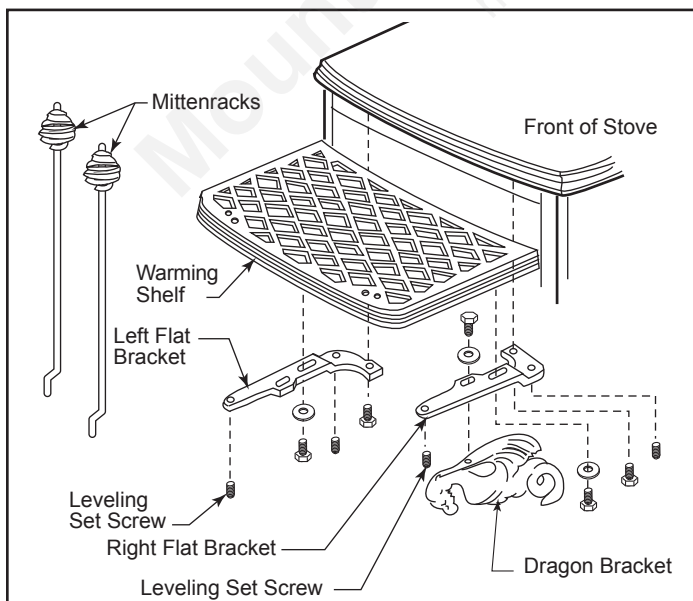

Figure 1 - Warming shelf parts.
1. Screw the leveling set screws into the bottom of the flat brackets as shown in Figure 1.